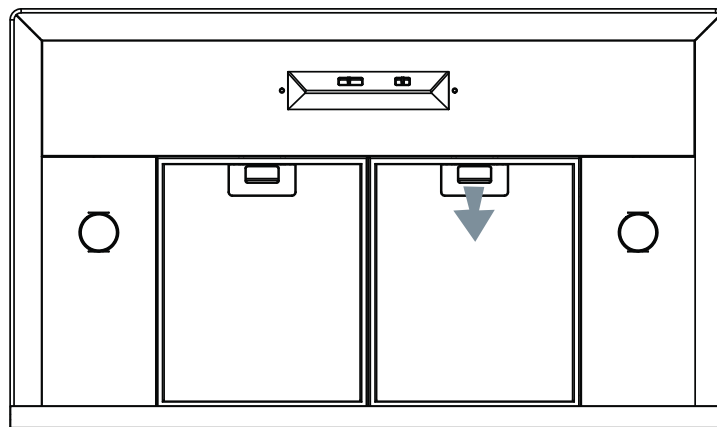

Fig 1
**Removing Aluminum Mesh Filters (Fig 1)**